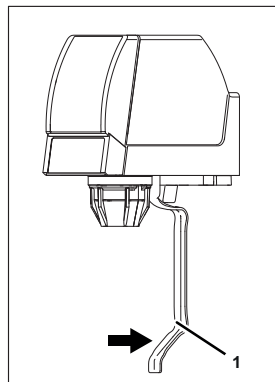

Fig. 12
2. Push the dispensing lever (Fig. 12/1) backwards with the cup.
3. When the required fill quantity has been reached, stop dispensing by removing the cup from the dispensing lever (Fig. 12/1).